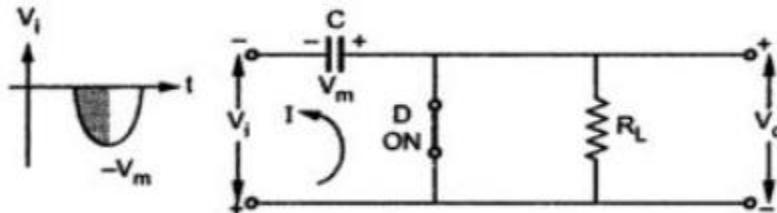

Fig. 2.28 Operation of Positive clamper during first quarter of negative half cycle
- During the first quarter of negative half cycle of the input voltage  $V_i$ , diode D gets forward biased and almost instantaneously capacitor gets charged equal to the maximum value  $V_m$  of the input signal  $V_i$  with the polarities as shown in the Fig. 2.28.
- The capacitor once charged to  $V_m$ , acts as a battery of voltage  $V_m$  with the polarities as shown in the Fig. 2.28.